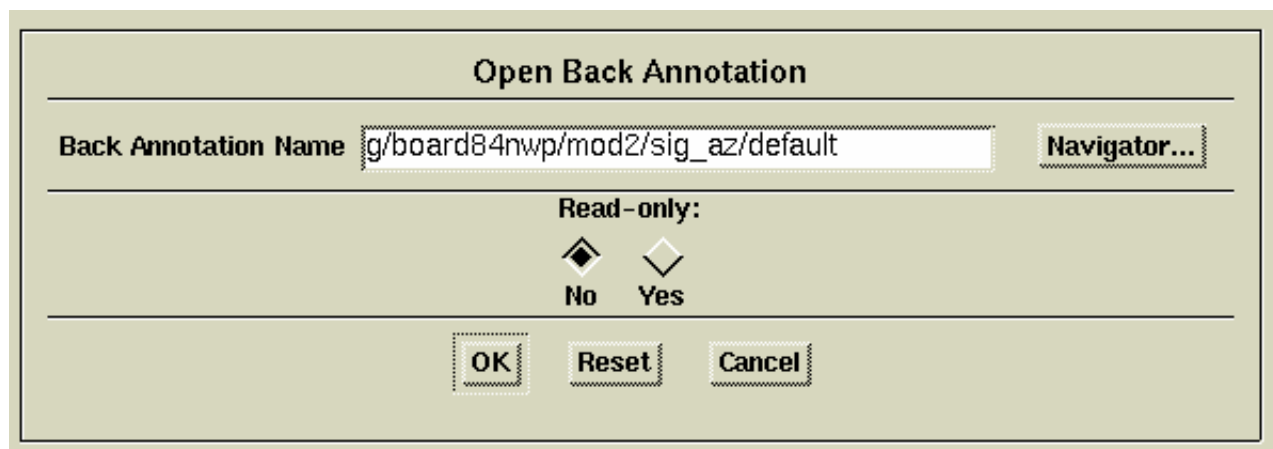

Figure 3-39. Open Back Annotation Dialog Box
5. Enter the pathname for a back annotation object named **default** in the dialog box and be sure **Read only: No** is specified, as shown in Figure 3-39.